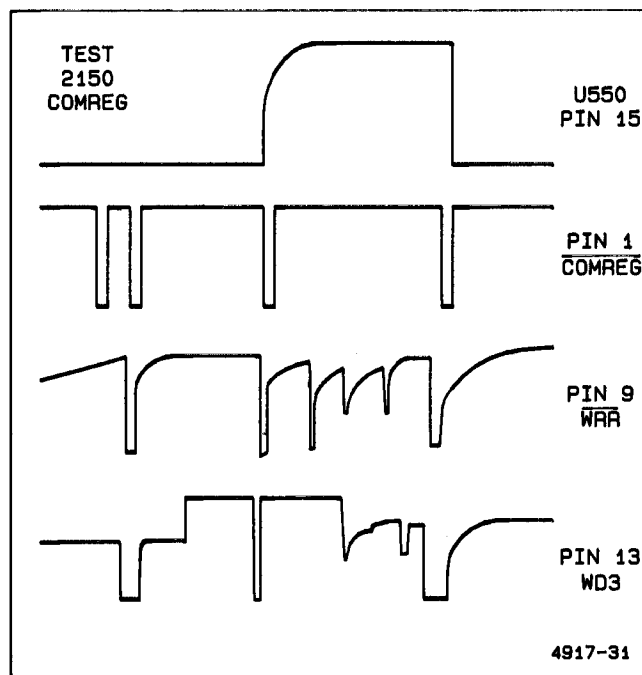

Figure 6-8. Typical Register test waveforms.
2. Run test 2150 in CONTINUOUS mode and check that U550 pin 1 ($\overline{\text{COMREG}}$) is set LO during the period that the clock line ($\overline{\text{WWR}}$) to U550 at pin 9 has a LO-to-HI transition. This may be done by saving the $\overline{\text{COMREG}}$ signal in REF1 and displaying it at the same time as the clock pulse on U550 pin 9 is acquired. If these signals are not coincident, then troubleshoot the cause and correct the problem. See Figure 6-8 for typical register test waveforms.